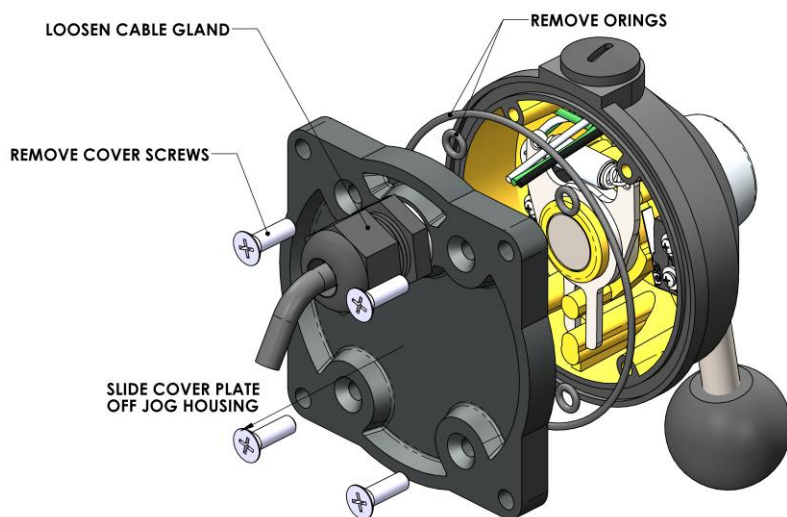

Figure 17: Removal of the cover plate and O-rings
2. [Under dash mount only] Loosen the cable gland so that the cover plate can be slid down the cable as shown in Figure 17.
4. Remove the cover plate, and body O-rings. For under dash mount models, the dash plate will need to be slid along the jog lever electrical cable as shown in Figure 17.